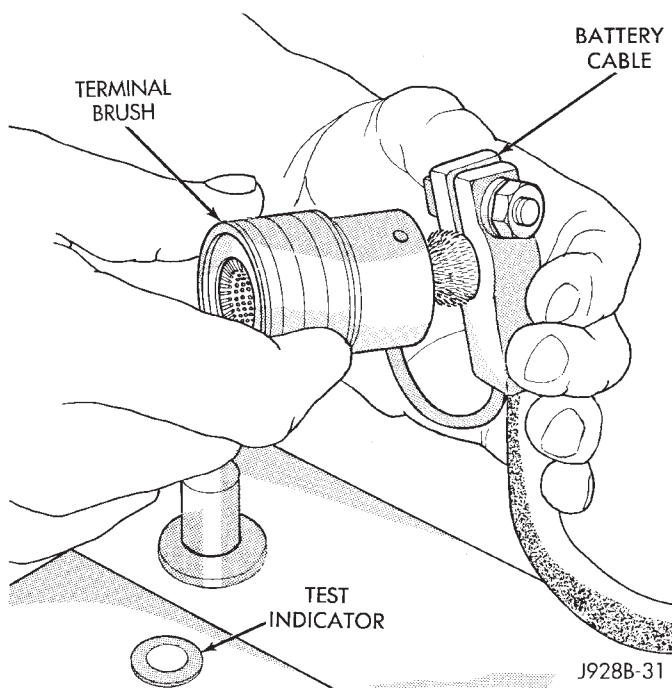

Fig. 11 Clean Battery Cable Terminal Clamp
(3) Inspect the cable terminal clamps for corrosion and damage. Remove any corrosion using a wire brush or a post and terminal cleaning tool, and a sodium bicarbonate (baking soda) and warm water cleaning solution (Fig. 11). Replace any cable that has damaged or deformed terminal clamps.